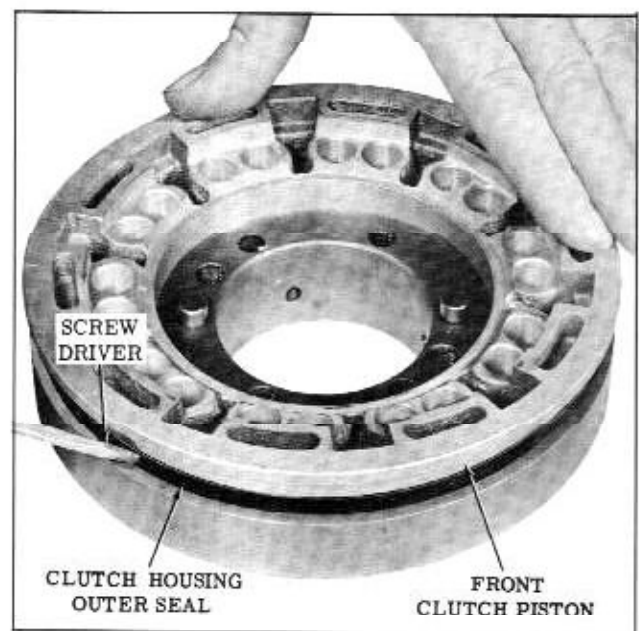

Fig. 3-63 Installing Outer Clutch Piston Seal
3. Install piston into clutch housing using small screw driver to guide outer seal into bore. (Fig. 3-63)